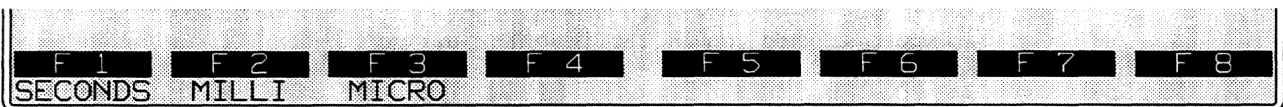

Figure 31-10 After a timer is named for printout display, a new softkey rack allows you to specify unit of time.
3. *Timer.* After the timer is named, a timer rate is selected from a new rack of softkeys as shown in Figure 31-10.